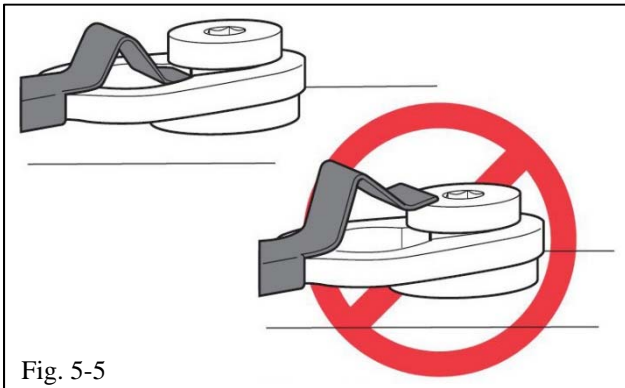

Fig. 5-5
**⚠ NOTE:** Ensure the safety cables are securely attached by checking that the spring clip is under the pin flange (Fig. 5-5). Repeat for the other side.